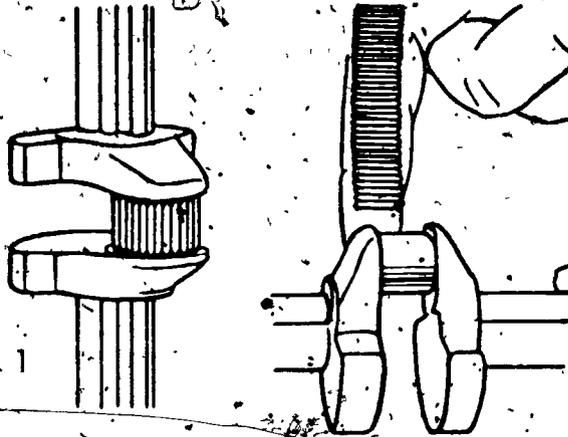

FIGURE 1
C Check connecting-rod side play (Figure 1)
- D. Place strip of needle bearings on crankshaft (Figure 1)